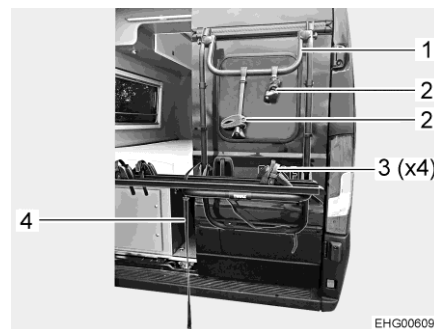

Fig. 3 Bike rack (example)
- Open the closure strap (Fig. 3,4).
- Position the bicycle on the rail and fasten it to the retaining bracket (Fig. 3,1) with the retaining arm (Fig. 3,2).
- Secure the front wheel and rear wheel of the bicycle to the wheel rail using retaining straps (Fig. 3,3).
- Close the closure strap (Fig. 3,4).